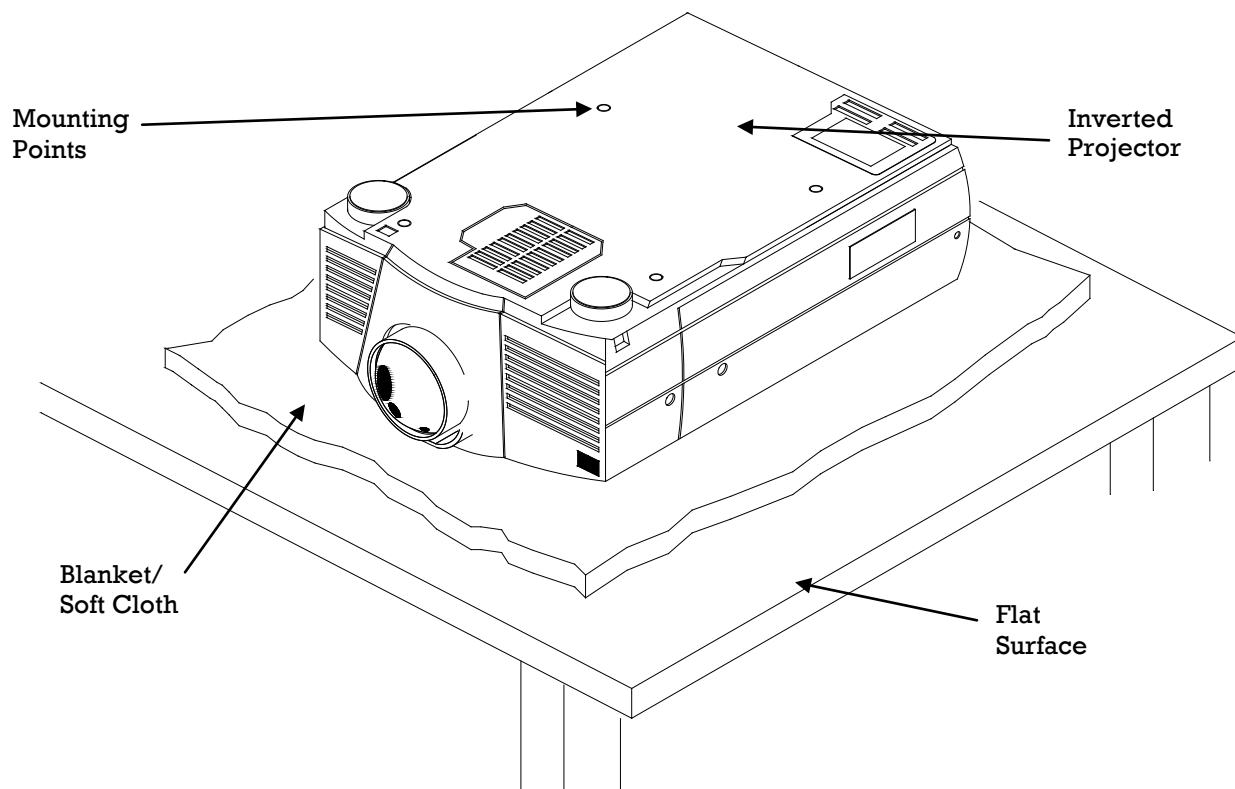

Figure 1. Projector Preparation
- Step 2. Identify the number of mounting points and screw thread size. Most projectors have either three or four mounting points and are M4, M5 or M6 in thread size (Figure 1).